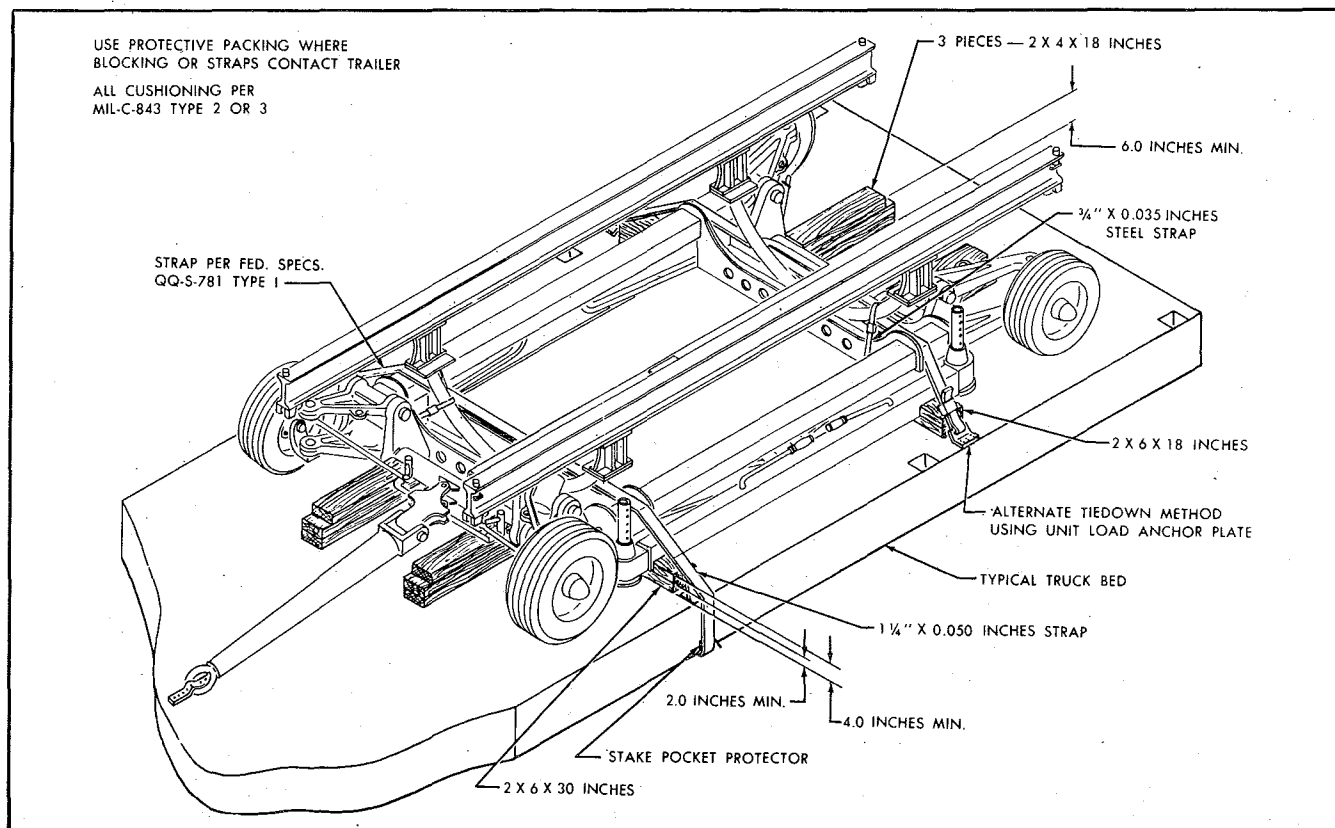

Figure 4-2. Tie-Down For Truck Shipment — Long Distance
4-7. TRUCK SHIPMENT, Long Distance. (See figure 4-2.)
4-9. After positioning the trailer on the truck bed, locate the four (4) 2 x 6 x 30 wood blocks under the main frame, as shown in Figure 4-2 and lower the main frame (see Paragraph 2-5, Section II) so that the
4-10. Locate the 2 x 4 and 2 x 6 wood blocking for end and side movement, as shown in Figure 4-2, and nail blocking to truck bed.
4-11. Tie trailer down using 1-1/4 inch wide by .050 thick steel strapping per Federal Specification QQ-S-781, Type I, as shown in Figure 4-2. If stake pockets are available on the truck and suitably located, secure steel strapping to stake pockets. If stake pockets are not available, not suitably located, or cannot be utilized, secure ends of steel strapping to truck bed using unit-load anchor plates nailed securely to truck bed.
Steel strapping shall *not* pass over the top of the aluminum transfer rails of the trailer, but over the end channels of the upper frame assembly, as illustrated in Figure 4-2, between the
4-15. After positioning the trailer on the truck bed, locate the four (4) 2 x 6 x 3 wood blocks under main frame, as shown in Figure 4-2 and lower the main frame (see Paragraph 2-5, Section II) so that the main frame rests on the blocks and the trailer weight is off the wheels.